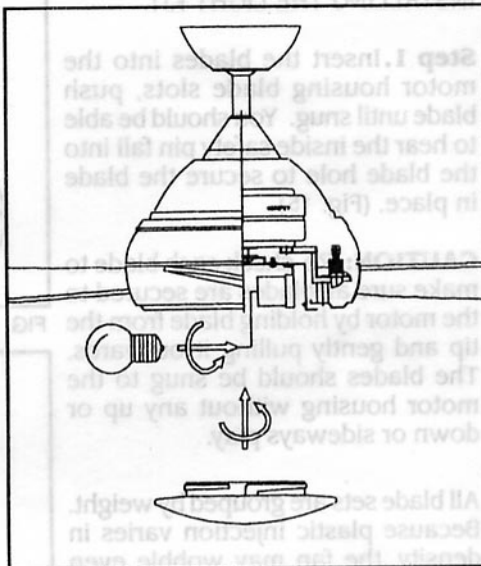

FIG.17
**Step 2.** Raise glass shade up against bottom of fan housing and secure it to the fan by twisting glass clockwise until snug. DO NOT OVERTIGHTEN. (Fig.17)